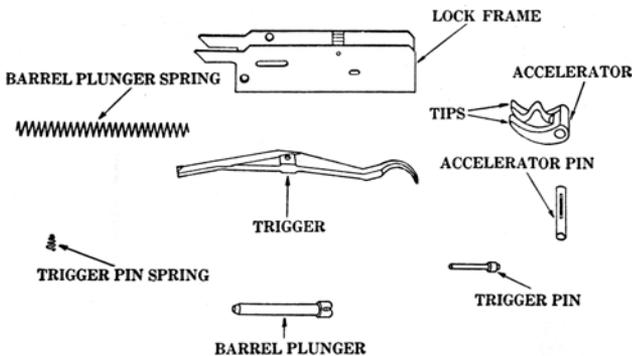

Figure 6. – Lock frame group.
■ 14. DETAILED DISASSEMBLING OF LOCK FRAME (fig. 6).